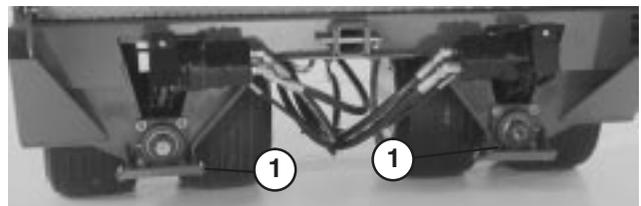

Figure 5
MOUNT SKIDS (Fig. 5)
1. Mount a skid to each mounting bracket with (2) carriage bolts, flat washers and locknuts. Position skids as shown in figure 5.